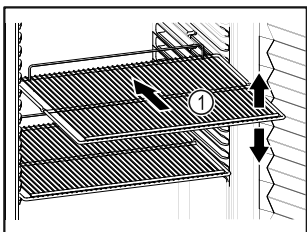

Fig. 53 Example illustration
- ❑ If there are adjustable shelves Fig. 53 (1), position them as required.